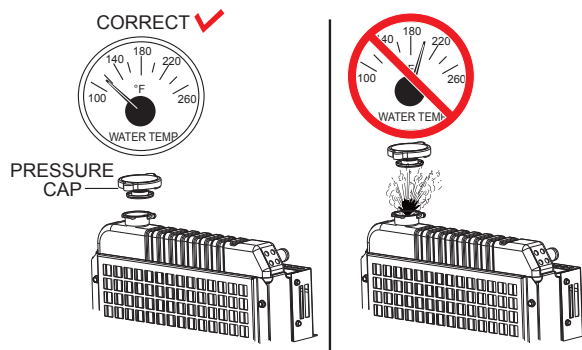

Figure 69. Radiator Pressure Cap Removal
1. Remove the **radiator pressure cap** (Figure 69) only when the coolant temperature is below 120°F (50°C).